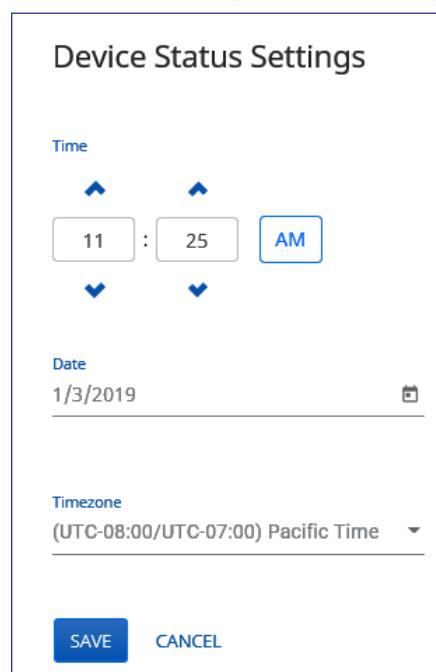

Figure 53. Device Status Settings Dialog Box
2. The **Device Status Settings** dialog box (see figure 53) appears allowing you to change **Time**, **Date**, and **Timezone**. Click **SAVE** when done.